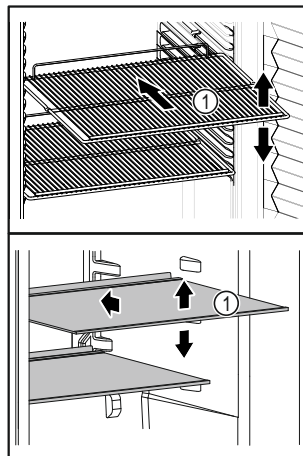

Fig. 4 Example illustration
- ☐ If storage surfaces Fig. 4 (1) are movable, adjust them according to height.